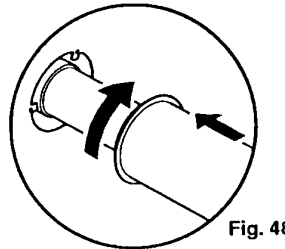

Fig. 48
5. Fit the air duct over the flue duct and draw towards the air box on the back plate. Engage the bayonet slots of the air duct over the location lugs of the back plate opening and press and turn clockwise to secure the air duct to the air box (Fig. 48).